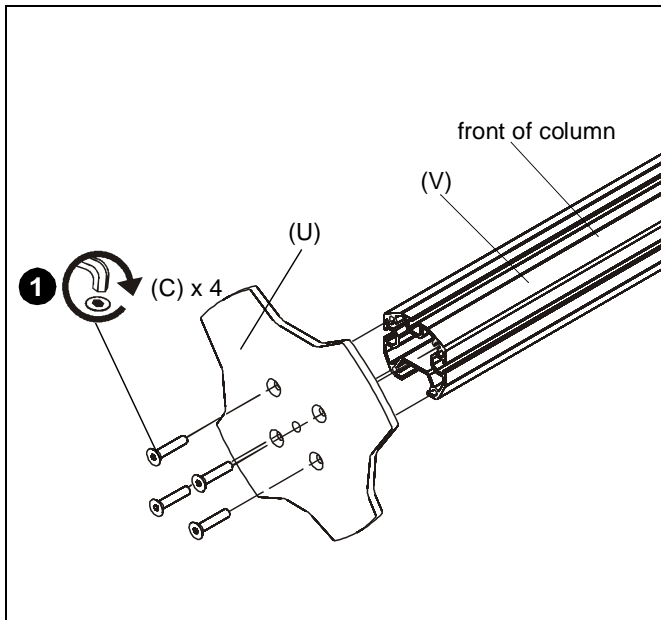

Figure 1
1. Use four 1/4-20 x 1 1/4" flat head cap screws (C) to secure grommet plate (U) to column (V). Make sure longer legs of grommet plate are aligned with the front of column. (See Figure 1)